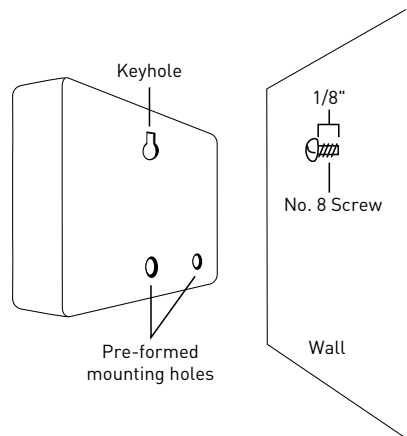

Figure 2: Hang timer on screw using keyhole
- Slip the HRC 100 C over protruding screw (using keyhole slot in back). See figure 2
- Drive a No. 8 screw through one of the two pre-formed holes located in lower back cabinet. See figure 2